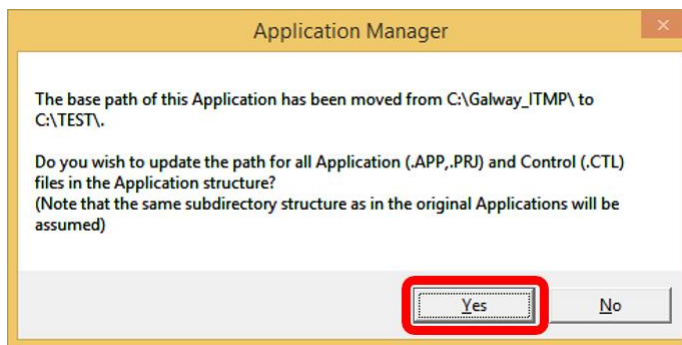

Figure 6.5 Cube prompt to update links
- 4) Open Cube and allow it to update all file paths. (Figure 6.5)